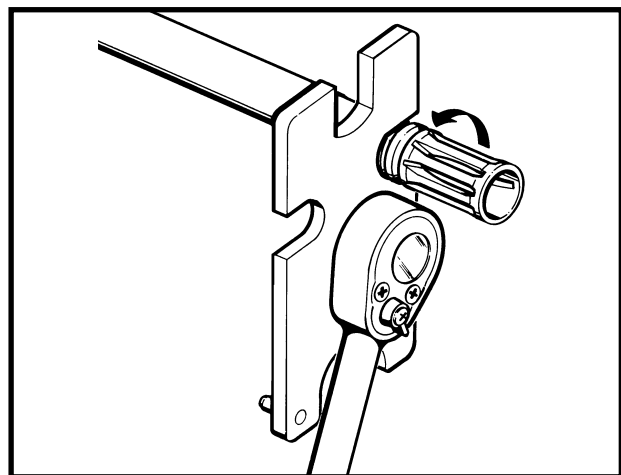

Figure 3-2-16 Unscrewing the Compensator
- (1) Clamp the barrel in a vise, equipped with vise jaw caps to ensure an adequate grip without damage to the barrel;
- (2) Using the combination wrench and a 1/2 inch drive ratchet, unscrew the compensator in a counter-clockwise direction, as viewed from the front. See Figure 3-2-16; and